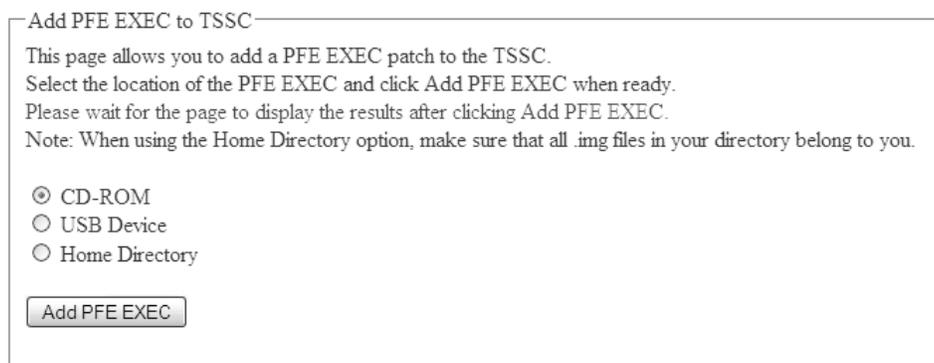

Figure 258. Adding PFE Exec from Web Interface
4. Select the option at the top for TSSC Exec. You see Figure 258
11. The process proceeds, then the page reloads. A message appears above the text depicted in Figure 258 on page 207, noting the success or providing an error message.